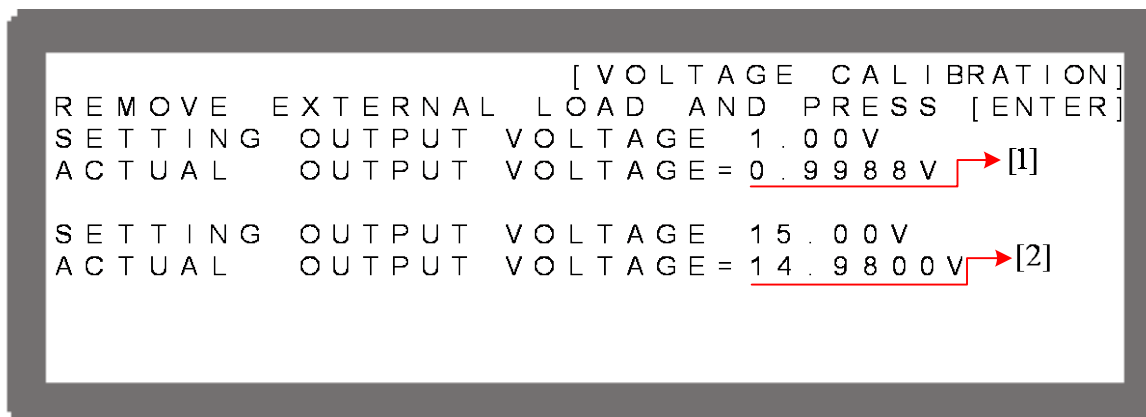

Figure 3-100
5. First does the low voltage range calibration (16V), the instrument will set the output voltage to 1.00V and the cursor is stopped at position [1] as Figure 3-100 shows. Enter the voltage measured by DVM (4 digits after decimal point) and press "ENTER" to confirm.
6. Press "↵" again to do the low voltage range calibration for its second point, the instrument will set the output voltage to 15.00V and the cursor is stopped at position [2] as Figure 3-100 shows. Enter the voltage measured by DVM (4 digits after decimal point) and press "ENTER" to confirm.
2. It is necessary to remove the output load when performing voltage calibration. The LCD panel will show the text as Figure 3-100 and once no load is confirmed for the output, press “” to start calibration.